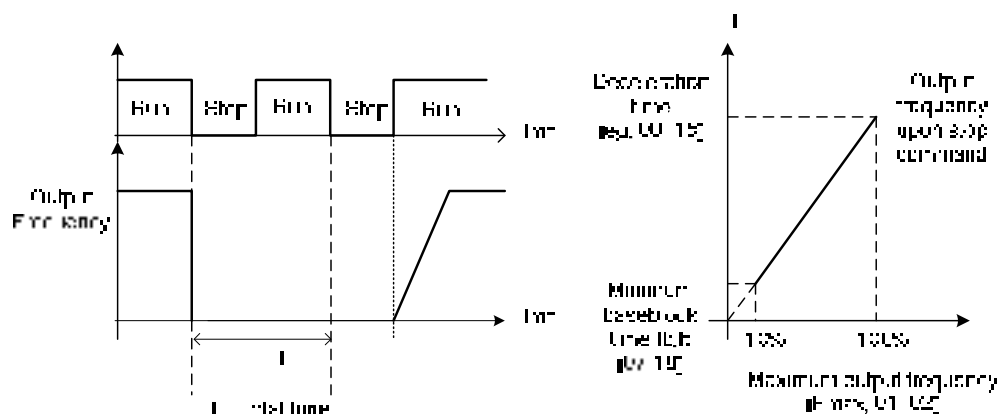

Figure 4.3.61 Coast to stop with timer
(4) 07-09=3 : Coast to stop with timer
- Refer to figure 4.3.61.